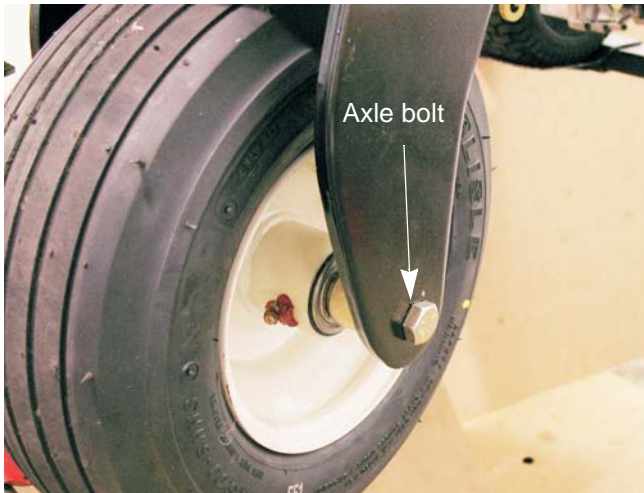

Figure 6.67
2. Remove the axle bolt and nut using a pair of 3/4" wrenches. See Figure 6.67.